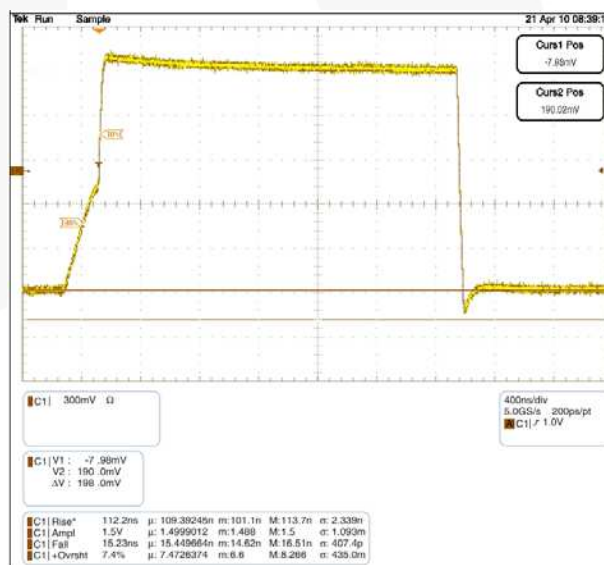

Figure 5. FXMA2102 Waveform C: 600 pF, RPU: 2.2 K
is a slave on the B port, the Npassgates act as a low resistive short between both ports until either of the port's VCC/2 thresholds are reached. After the RC time constant has reached the VCC/2 threshold of either port, the port's edge detector triggers both dynamic drivers to drive their respective ports in the LOW-to-HIGH (LH) direction, accelerating the rising edge. The resulting rise time resembles the scope shot in Figure 5. Effectively, two distinct slew rates appear in rise time. The first slew rate (slower) is the RC time constant of the bus. The second slew rate (much faster) is the dynamic driver accelerating the edge.
The FXMA2102 dynamic drivers have enough current sourcing capability to drive a 400 pF capacitive bus. This is beneficial for instances when an I2C buffer / repeater is required. The I2C specification stipulates a maximum bus capacitance of 400 pF. If an I2C segment exceeds 400 pF, an I2C buffer / repeater is required to split the segment into two segments, each of which is less than 400 pF. Figure 5 is a scope shot of an FXMA2102 driving a lumped load of 600 pF. Notice the (30% - 70%) rise time is only 112 ns ( $R_{PU} = 2.2 K$ ). This is well below the maximum edge rate of 300 ns. Not only does the FXMA2102 drive 400 pF, but it also provides excellent headroom below the I2C specification maximum edge rate of 300 ns.